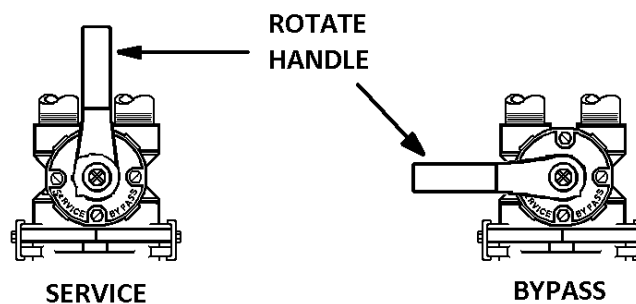

FIGURE 4: Stainless Steel Bypass Valve Operation
STEP 9: Place bypass valve in the "Bypass" position (refer to Figures 4 below). Open main supply valve or turn on power to pump on private well systems.
- Refer to Figure 4 (page 5) for appropriate bypass valve operation. Rotate bypass lever of stainless steel bypass $\frac{1}{4}$ of the way to “Service” allowing unit to fill slowly. You should hear water trickling into the mineral tank. Filling the mineral tank in this position will force any trapped air to the drain. **When all air has been purged from the system and only water is running to the drain, slowly open the bypass valve fully to the service position.**